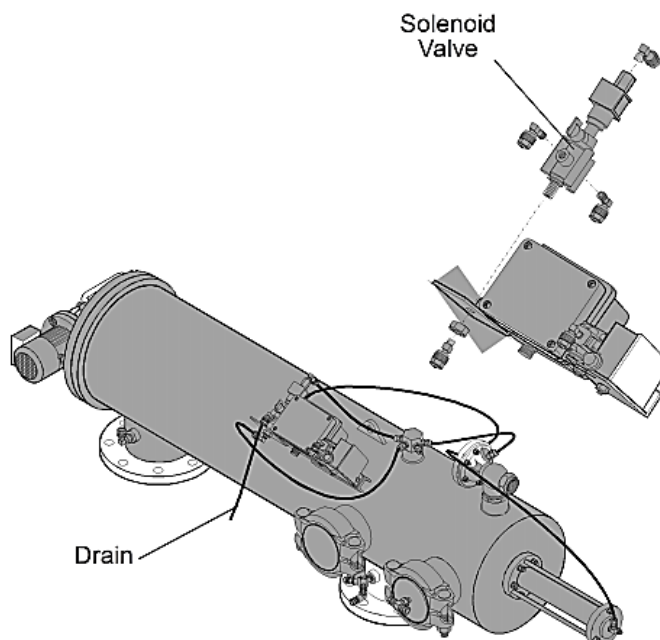

Figure 5: Solenoid Removal & Installation
10. Connect the 2 electrical wiring to the control card terminals (See Figure 5).